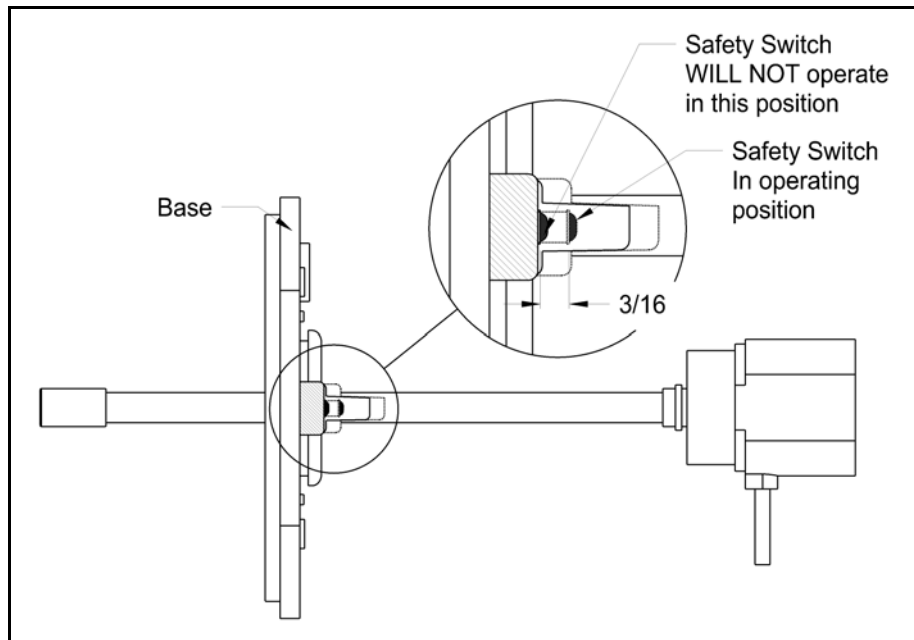

Figure 8
- If blue glow is not seen, make sure the base is properly installed onto duct. There is a proving switch located on the base that needs to be seated properly onto the duct. **Make sure when installing the base the plated washer on the switch is raised approximately 3/16". The proving switch must be fully engaged.** (See Figure 8)